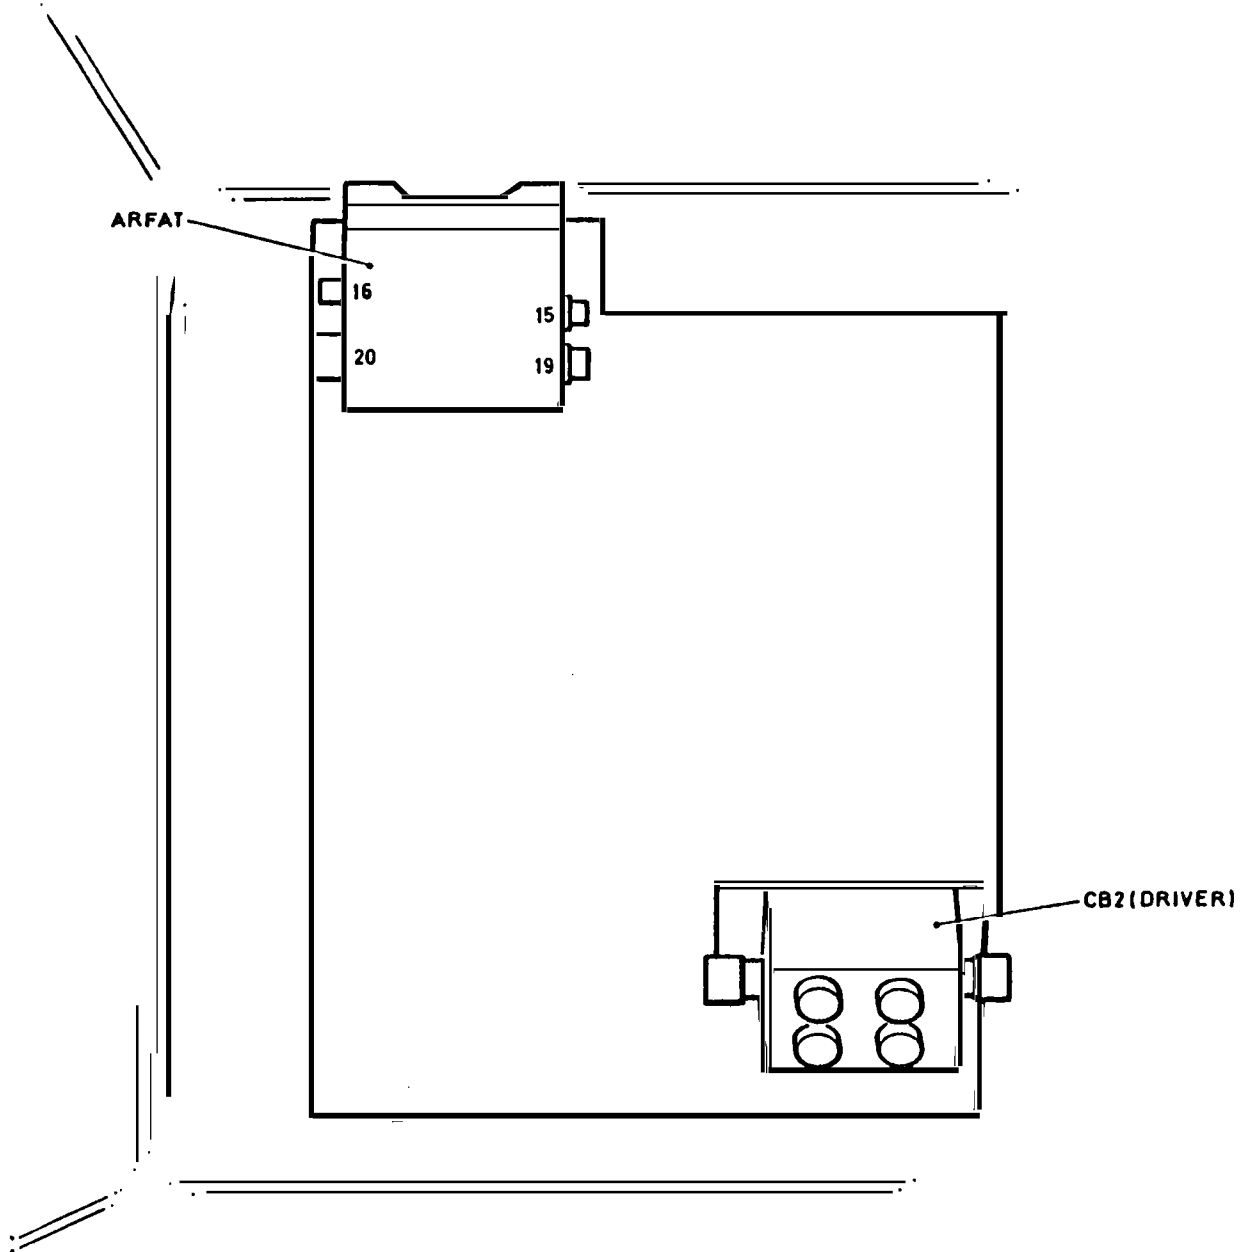

Fig 6 ARFAT location diagram
Fit the ARFAT (3) to the universal mounting plate as per Fig 6 and Table 2, operation 4.